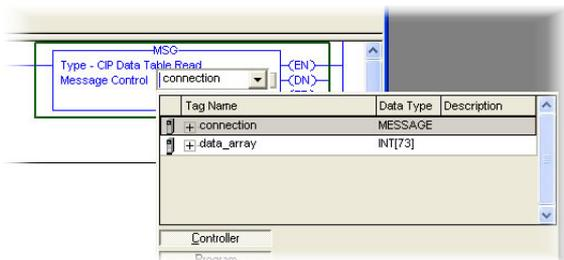

Figure 102: MSG Instruction Tag Assignment
- a) Edit the "Message Control" field on the MSG instruction to use the previously-created "connection" tag. Refer to Figure 102.